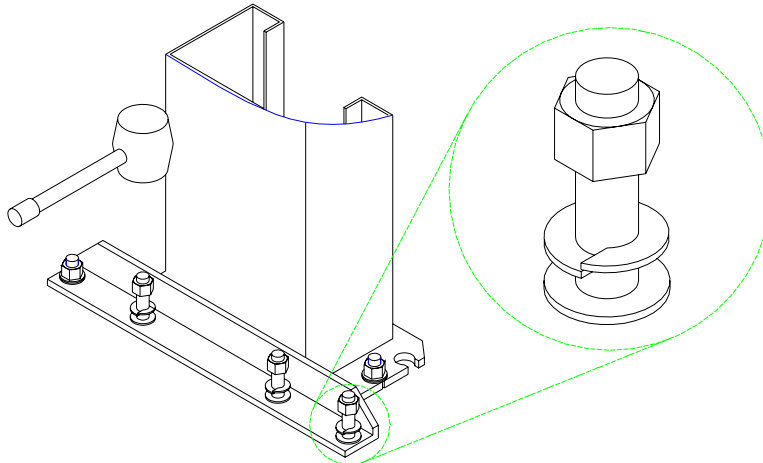

Figure 8
- E.** Assemble the washers and nuts onto the anchor bolts. Thread the nuts onto the anchor bolts where the tops of the nuts are just above the top of the bolts, figure 8. Using a hammer, carefully tap the anchor bolts into the concrete until the washer rests against the baseplate. **Do not damage the nuts or threads.**